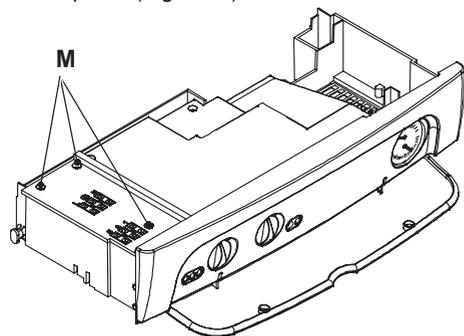

Fig. 6.16
- Loosen the screws M and remove the service panel (Fig. 6.16).